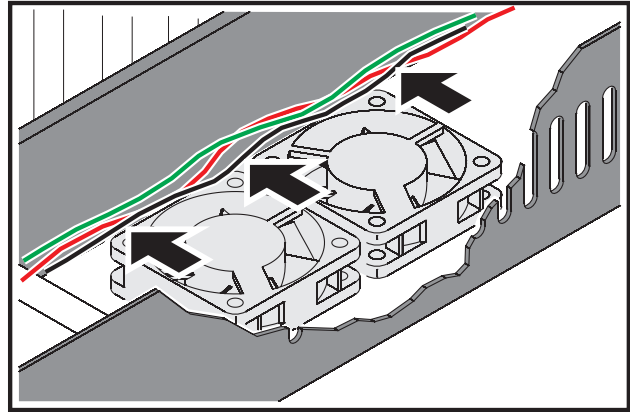

Figure 4
6. Wiring must be kept well clear of cooling fans to avoid any possibility of damage to the wiring. See Figure 4. Check that the power leads inside the base are routed alongside – and not over – the fans in the base.